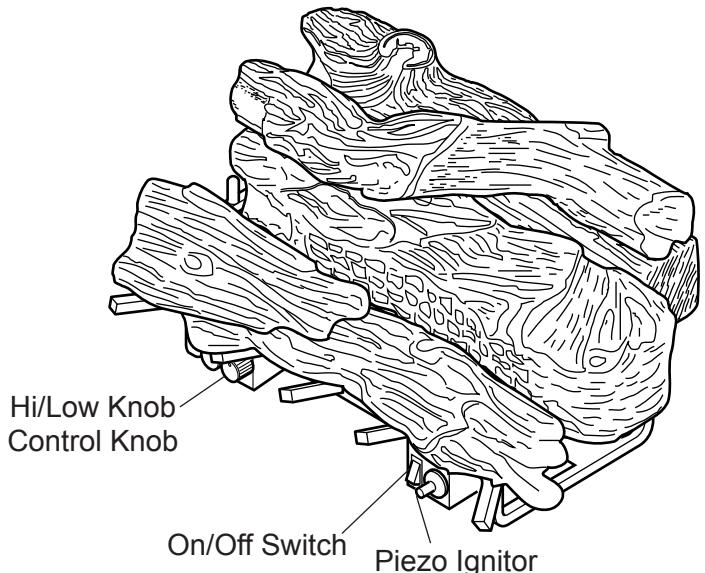

Figure 28 - Location of Piezo Ignitor, On/Off Switch, and Control Knob on Milli-Volt Unit
4. See Figure 28, page 26 for the location of the piezo ignitor and control knob. Turn control knob clockwise to the OFF position.